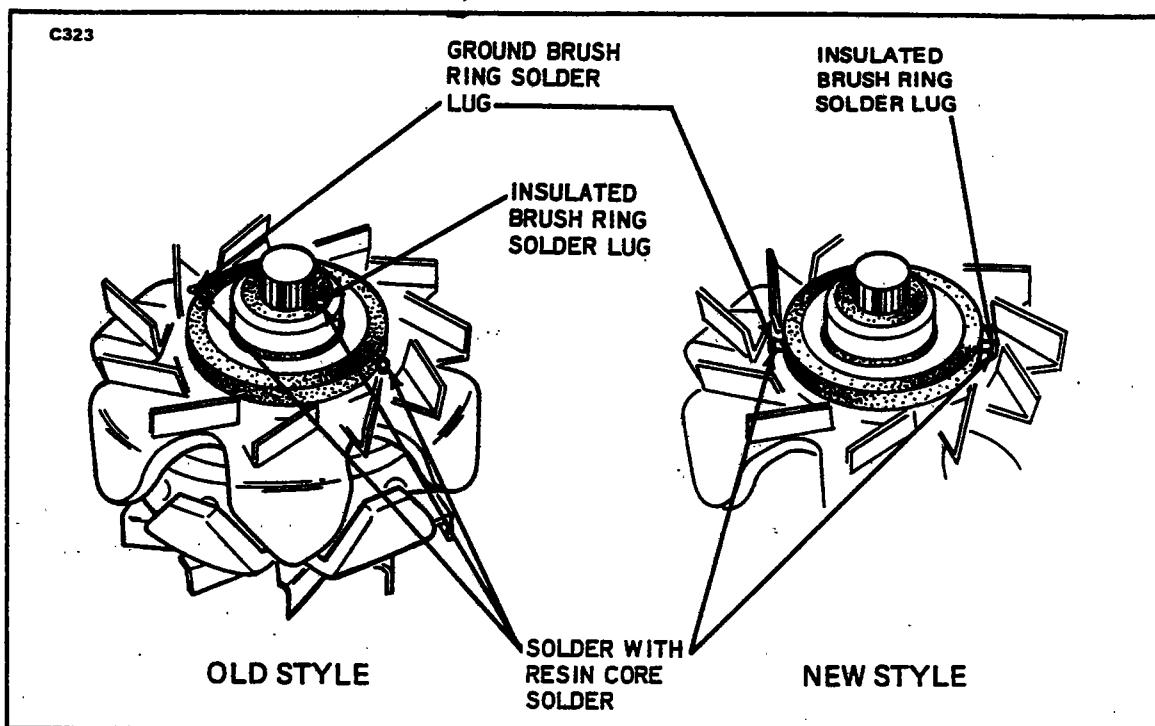

Figure 11-36. Solder Points
8. Unsolder the guide wire from the insulated slip ring lead. Press the field lead into the solder lug and solder to lug with rosin core solder. (Refer to Figure 11-36.) Solder securely but do not leave an excessive blob of solder on rotors equipped with grease retainer.
- b. New Style (Refer to Figure 11-36):